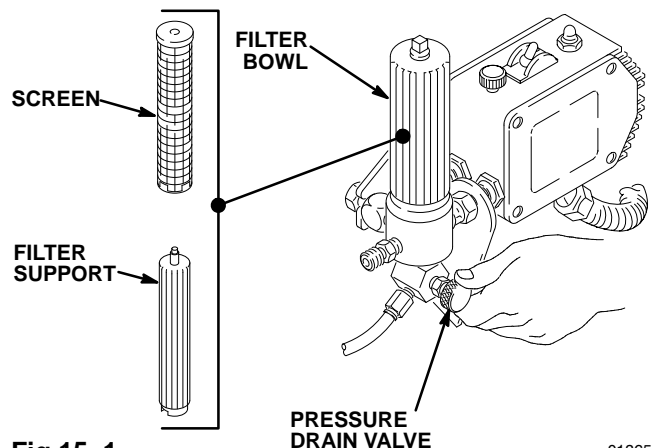

Fig 15–1
3. Remove the spray tip from the gun. Remove the filter bowl and screen; see manual 307–273. Clean the screen separately and install the bowl without the screen to flush it. See Fig 15–1.